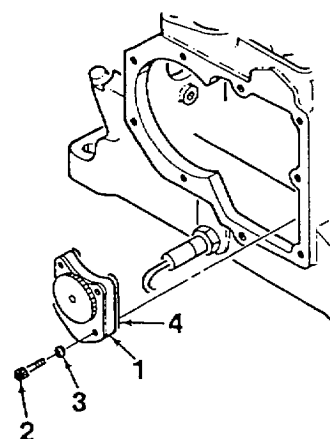

Figure 5-5. Oil Pump
Remove oil pump (1, Figure 5-5) from engine block by removing screws (2) and washers (3). Ensure locking plate (4) is retained with pump.